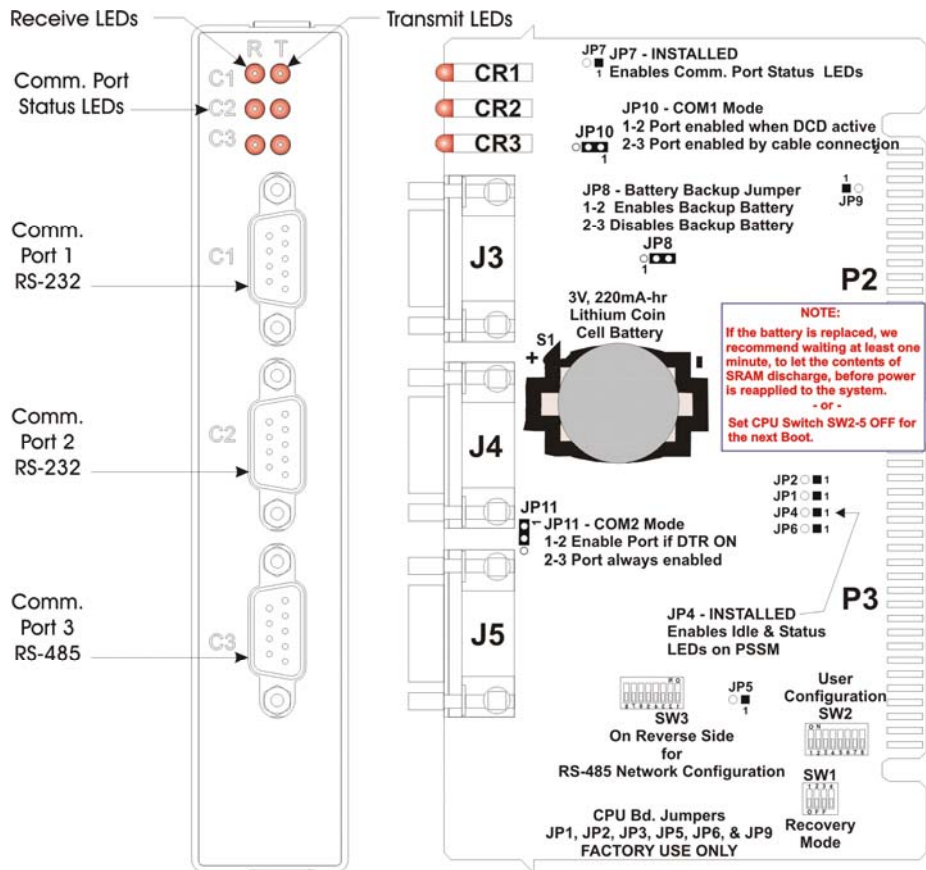
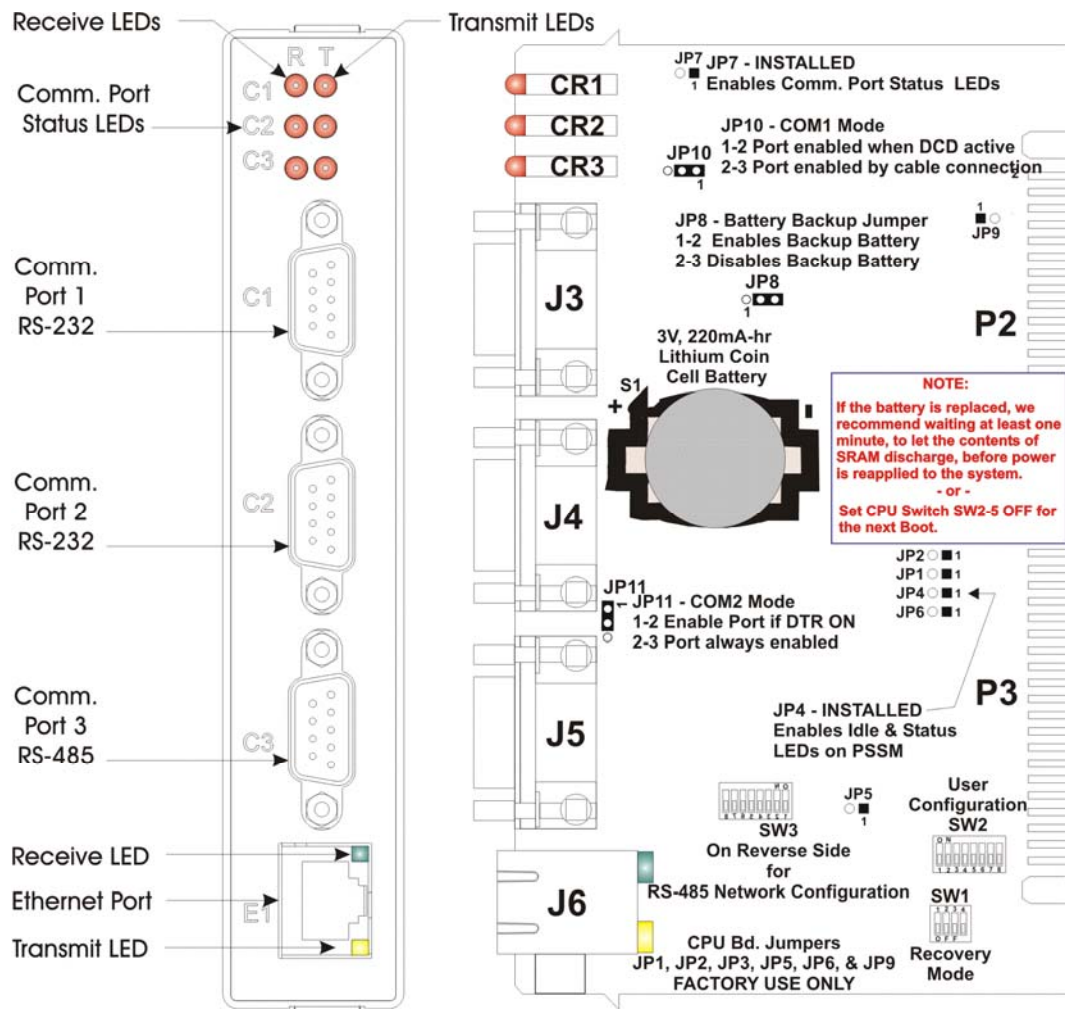
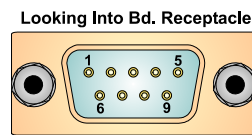

Figure 2-19. CPU Module with Three Serial Ports
Figure 2-20. CPU Module with Three Serial Ports and One Ethernet Port
Figure 2-21. Male DB9 9-Pin Connector
- CPU with two RS-232 serial ports, and one RS-485 serial port (see *Figure 2-19*)
- CPU with two RS-232 serial ports, one RS-485 serial port, and one Ethernet port (see *Figure 2-20*). The Ethernet option is only available for 150 MHz CPU.
Each CPU module contains a number of jumpers (labeled with JP n) when n in the jumper number. See *Figure 2-19* or *Figure 2-20* to locate the jumpers.
Before you install the CPU module, you must determine the settings for three banks of DIP switches. Refer to *Figure 2-19* or *Figure 2-20* for the location of the DIP switch banks on each CPU module. Refer to *Tables 2-5* through *2-7* for DIP switch setting values.
| J3 | COM1 | 9-pin | 9-pin male D-sub (RS-232). Also supports circular 3-pin female connector (local port) at the bottom of the enclosure. | See Figure 2-19, Figure 2-20, Figure 2-21 & Table 2-8 |
| J4 | COM2 | 9-pin | 9-pin male D-sub (RS-232) | See Figure 2-19, Figure 2-20, Figure 2-21 & Table 2-8 |
| J4 | COM4 (when in slot 3) COM8 (when in slot 4) | 9-pin | 9-pin male D-sub (RS-232) | See Figure 2-21, Figure 2-31, Figure 2-32 & Table 2-10 |
| J5 | COM5 (when in slot 3) COM9 (when in slot 4) | 9-pin | 9-pin male D-sub (RS-232) | See Figure 2-21, Figure 2-32 & Table 2-10 Only available on ECOM Type 2 models. |
Figure 2-21 illustrates the CPU module’s male 9-pin D-type connector. Use the content provided in *Table 2-8* to determine pin assignments for the COM1 and COM2 ports and the expansion communication ports COM4/5 and COM8/9.
RS-485 COM Port Cables Figure 2-21 illustrates the CPU module's male 9-pin D-type connector. Use the content provided in Table 2-15 to determine pin assignments for the COM3 port on the CPU (CPU switch SW3), and COM5/9, COM6/10, and COM7/11 expansion communication ports (ECOM switches SW1 and SW2).